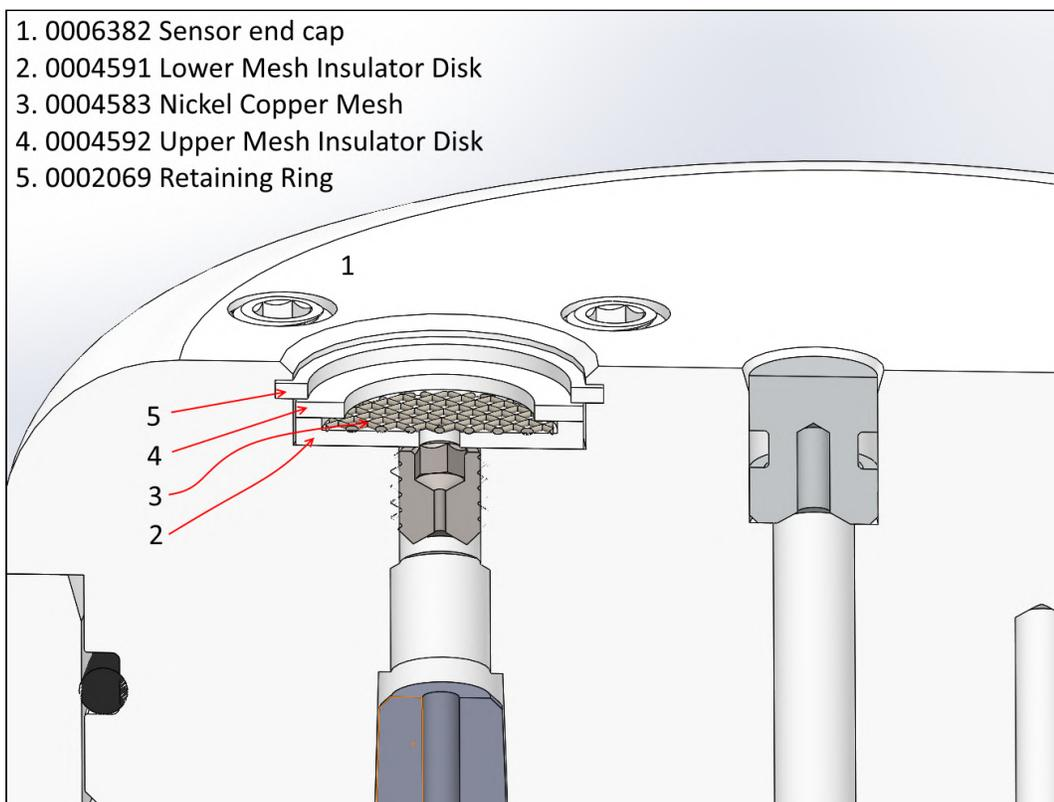

Figure 1 - Anit biofouling mesh assembly
7. Reassemble, as per Figure 1 and instructions below:
- d. The nickel-copper mesh (0004583) will rest in the recess of the lower mesh insulator disk, see Figure 1.